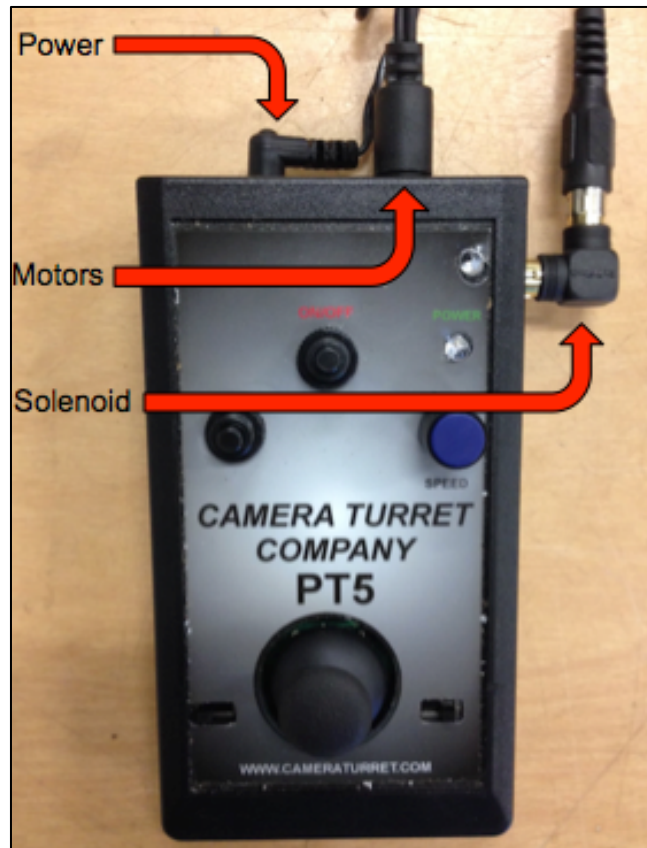

Figure 8 – Joystick Controller Wiring
- Step 7) Connect wiring harness to joystick according to Figure 8 below. Connect remaining three AV connections from turret to the system wires that run to the camera turret. **NOTE: Connect the Black AV connections together and Red-Silver AV connections together.**